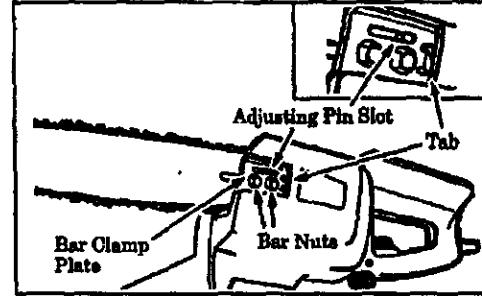

Figure 10
- Slide guide bar forward and fit the adjusting pin into the round hole in the guide bar. Figure 10.
- Hold the guide bar against the saw frame and install the bar clamp plate. Be sure tab on the bar clamp plate is toward the rear of bar. Figure 10.